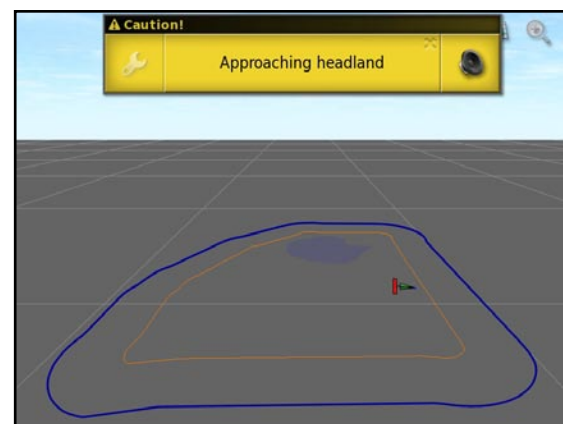

Figure 9.23 - Approaching Headland
7. Confirm the alarm and zoom actions. An orange headland will be displayed inside the boundary line. Approaching the headland will trigger the alarm and zoom that has been set, refer to *Figure 9.23*. If you want to control within headland, the Boundary Limit in Auto Section Control mini-view window needs to be set to Headland, as described in *Section 8.10 - Using Auto Section Control*.